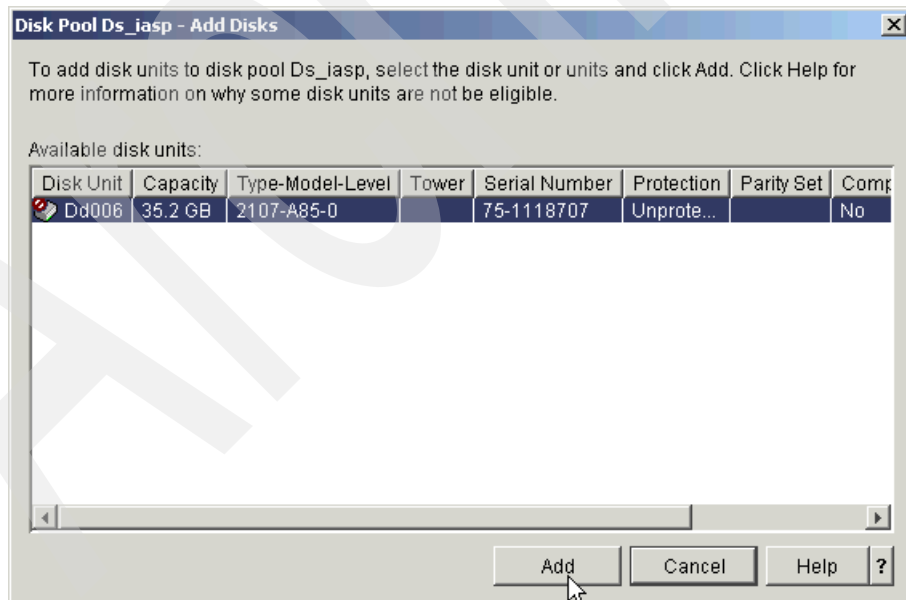

Figure 5-30 Choosing the disks to add to the disk pool
- The Disk Pool - Add Disks window lists the non-configured units. Highlight the disk or disks that you want to add to the disk pool, and click **Add**, as shown in Figure 5-30.